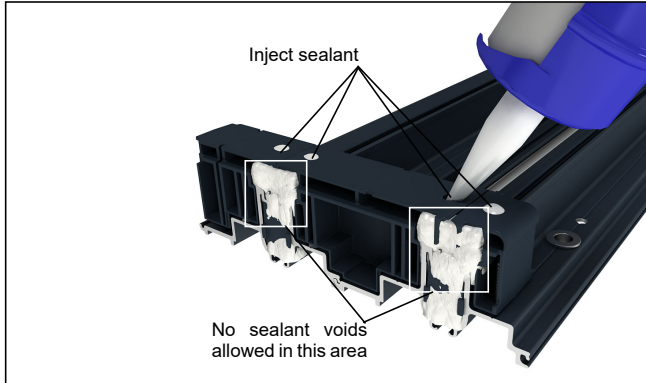

Figure 6
6. Turn over the sill to its upright position. Inject sealant into the end caps. See figure 6. Tool excess sealant smooth.